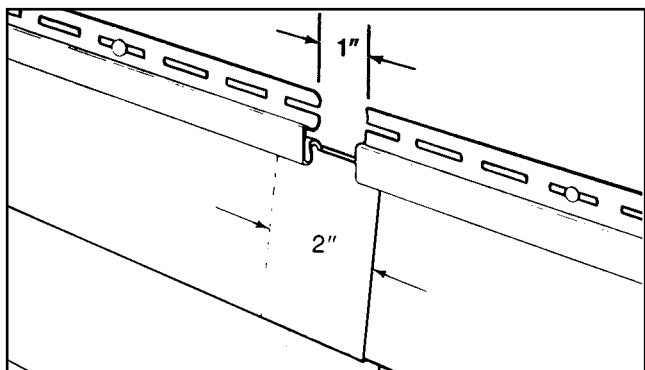

Fig 6.3
**3. LAPPING END JOINTS** Overlap siding panel ends at least 1' in accord with the factory prenotched cutouts (Fig. 6.3). *Do not butt nailing slots.* Leave clearance for panel expansion. Succeeding panel ends may lap over or lap under previously installed panels. Lap joints away from entrances and away from the point of greatest traffic to improve the appearance of installation. Stagger end laps so that one is not directly above another unless separated by three courses.